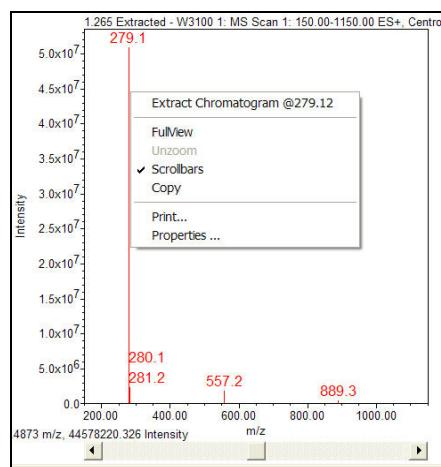
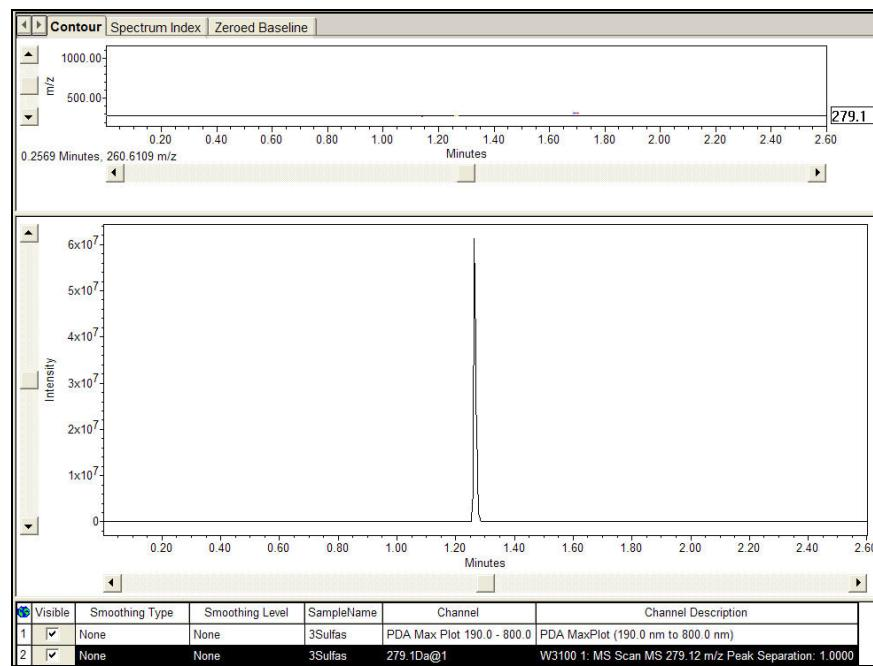

Figure 163 - Extracting chromatogram
Figure 164 - Displayed chromatogram
4. Right-click the MS Spectra at m/z of 279.1 and select **Extract Chromatogram @279.12**, see Figure 163, to display the resulting MS chromatogram at a m/z of 279.12, see Figure 164.